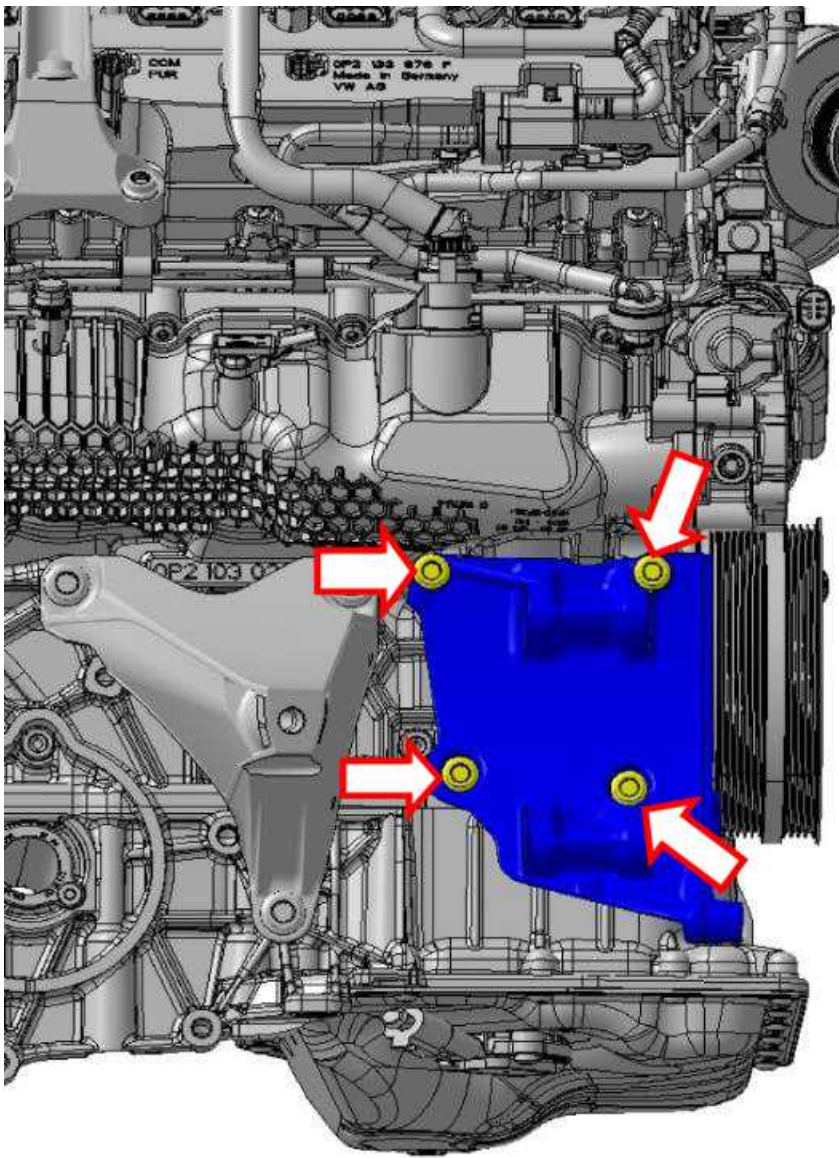

Figure 3
- Right hand lower bracket (Figure 3) - Torque to 20 Nm